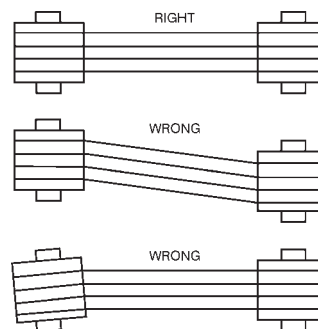

Figure 3.10 - Correct pulley alignment
**RUNNING:** To avoid needless radial stresses on the bearings it is imperative that shafts are parallel and the pulleys perfectly aligned. (Figure 3.10).